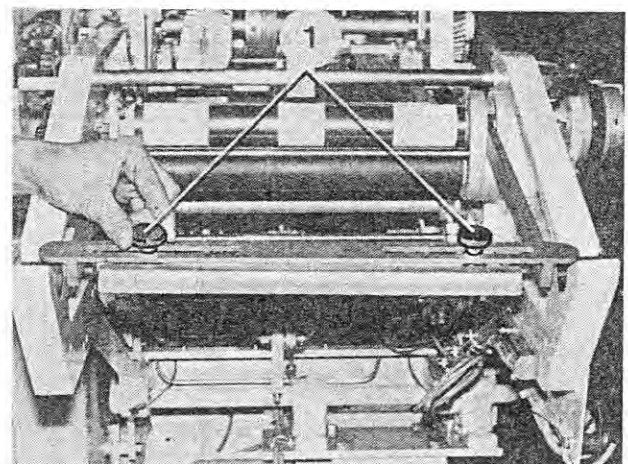

Fig. 186
1. Loosen the knurled nuts (Figure 186/1). Adjust the guide pins to the marks which correspond to the wrapper. Tighten the knurled nuts.